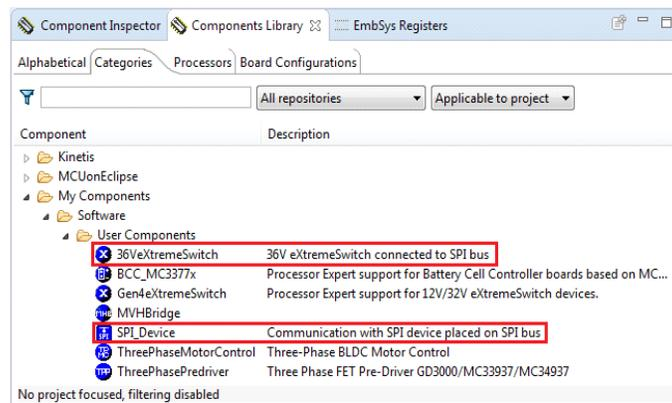

Figure 8. 36VeXtremeSwitch component location after importing into Kinetis Design Studio
4. If the import is successful, the 36VeXtremeSwitch component is in **Components Library -> Software -> User Components** (see Figure 8). The component is ready to use.